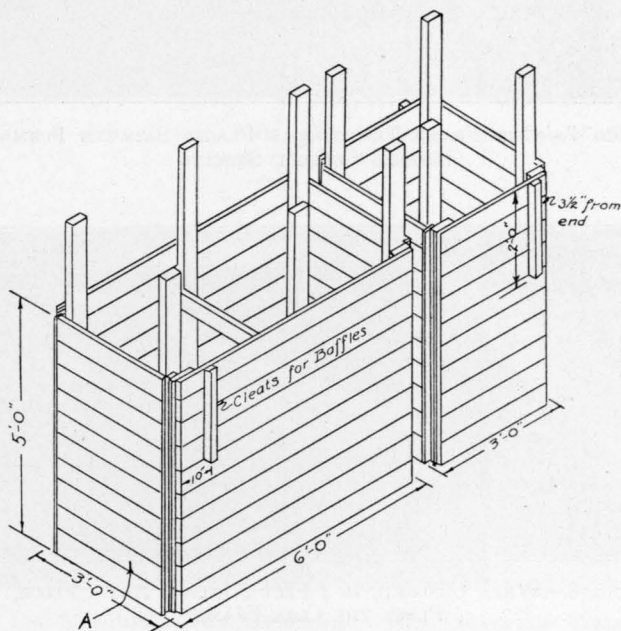

FIG. 10.—FORMS ASSEMBLED FOR TWO-CHAMBER SEPTIC TANK
For a two-chamber tank, build the forms according to Fig. 10, making the outside dimensions 6 by 3 feet for the first chamber and
Placing the Forms. The forms for the concrete should be built or assembled as shown in Figs. 10 and 6 and painted on the outside with old crankcase oil. (If special collapsible forms are used, see additional directions on page 20.)
2. Study the details of construction shown in Figs. 10 and 19.